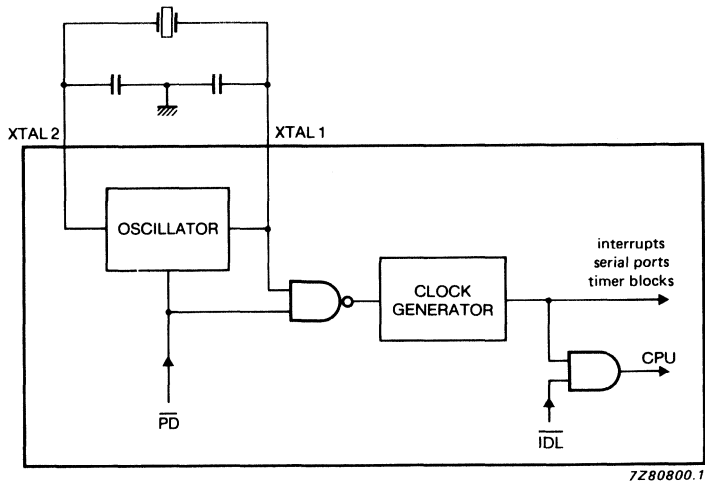

Fig. 8 Internal Idle and Power-down clock configuration.
**Idle and Power-down operation** (see Fig. 8)